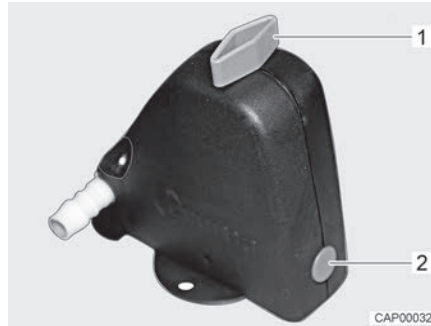
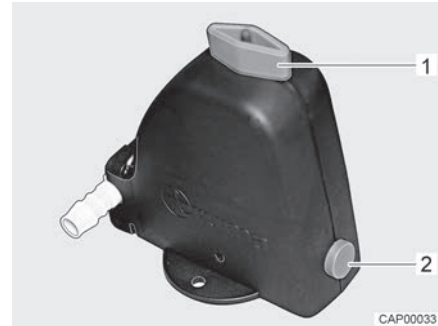

Fig. 145 Safety/drainage valve closed
Fig. 146 Safety/drainage valve open
- Open the safety/drainage valve (Fig. 145). To do this, turn the knob (Fig. 145,1) parallel to the safety/drainage valve. The push button (Fig. 145,2) jumps out. The open safety/drainage valve is shown in Fig. 146.